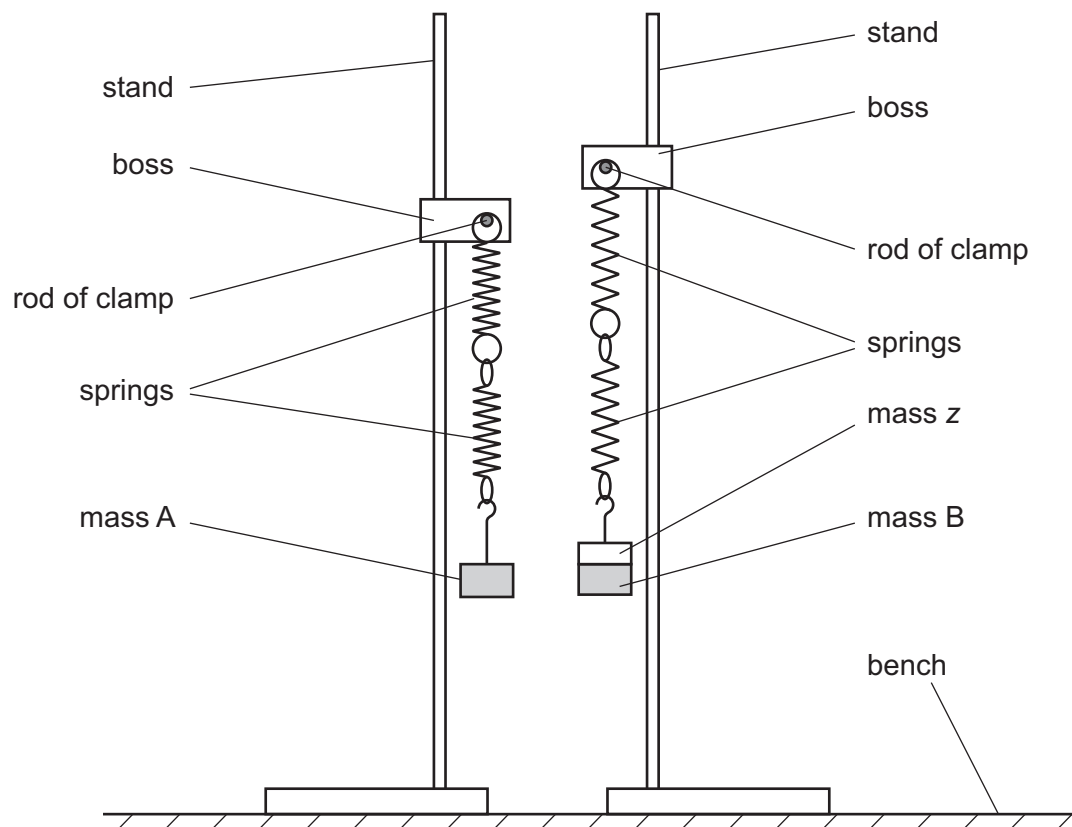

Fig. 1.1
- (a) • Assemble the apparatus as shown in Fig. 1.1.